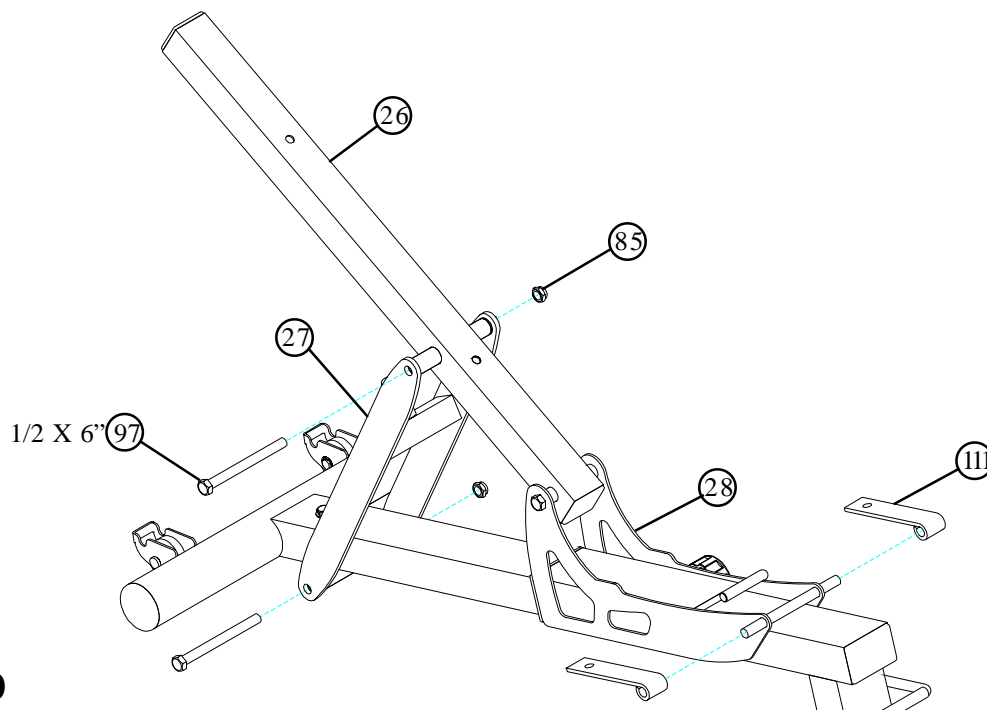

FIGURE 30
- Assemble the BACK PAD SUPPORT (26) to the BENCH ROCKER (27) using two 1/2 X 6" BOLTS (97) and two 1/2" LOW HEIGHT LOCK NUTS (85). (Note: Tighten this connection enough to remove excess play yet allow the BENCH ROCKER to rotate freely.)
- Assemble two HINGE TABS (111) to the tubes on the BENCH SEAT ADJUST (28) as shown in FIGURE 30.